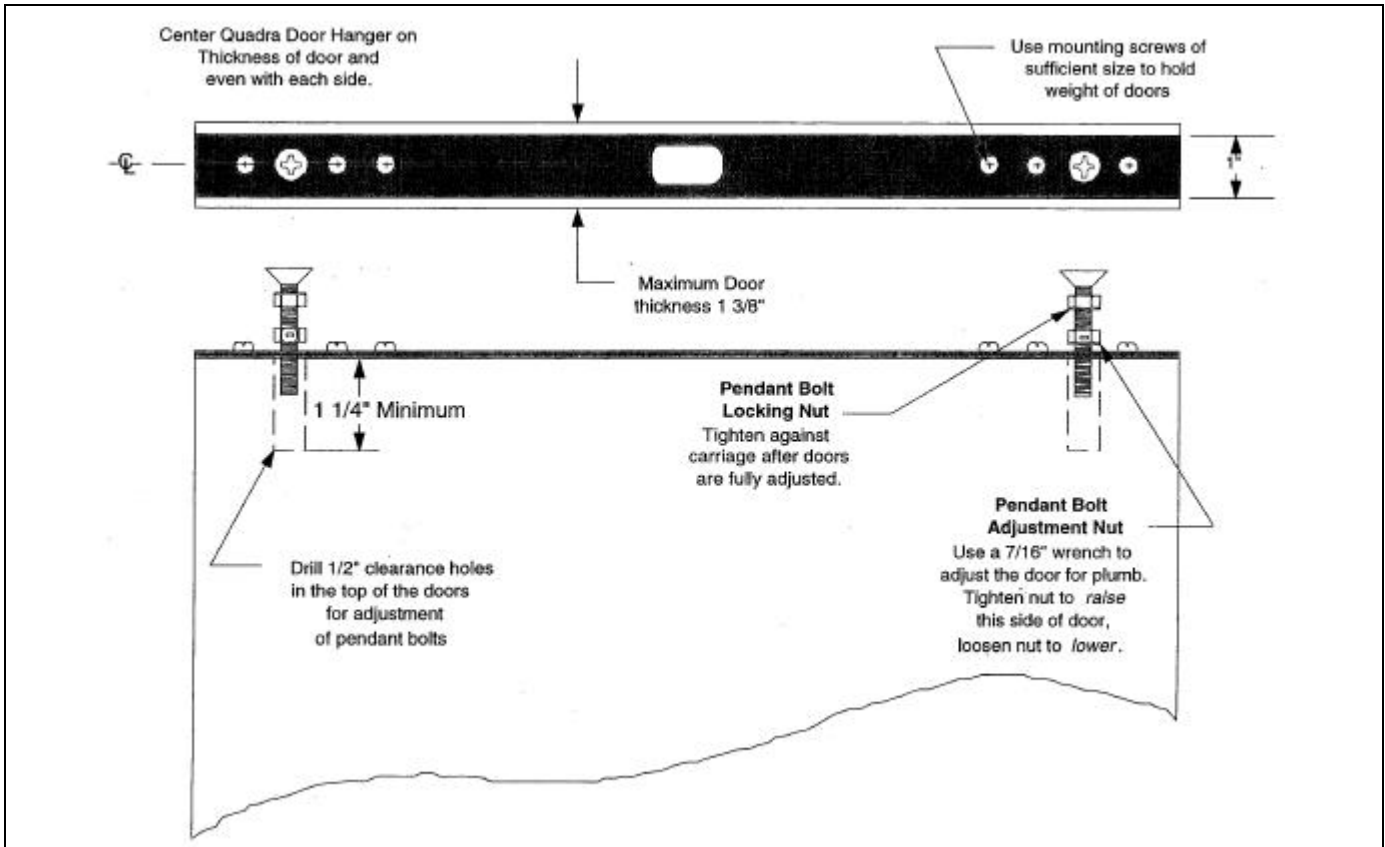

Figure 3
2. Mount the door hangers to the top of the 4 doors. After mounting, check to make sure that the pendant bolts can be freely adjusted in and out of the door hangers. (See Figure 3)
plate wheel into the track area built into the base. Then tip the top of the door into the mechanism and engage the pendant bolts into the slots in the carriages. After hanging the doors spin the locking nut on the pendant bolts up so that the nut is finger tight against the bottom of the carriage. (See Figure 3)